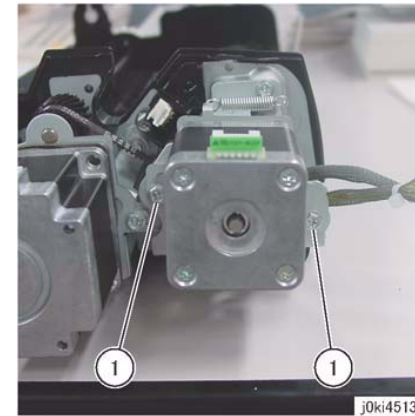

Figure 1 DADF Reg Motor Belt Tension
10. Loosen the Belt tension of the DADF Registration Motor. (Figure 1)